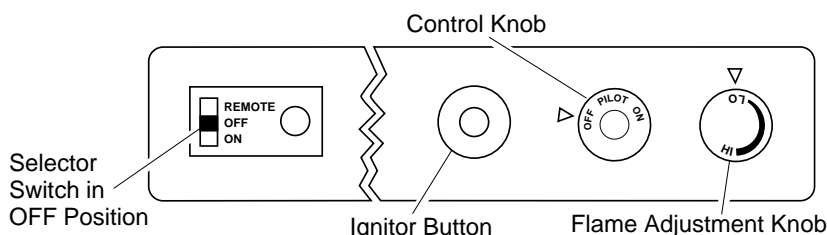

Figure 26 - Control Knob and Ignitor Button Location
5. Wait five (5) minutes to clear out any gas. Then smell for gas, including near the floor. If you smell gas, STOP! Follow "B" in the safety information, column 1. If you don't smell gas, go to the next step.
6. Press in and turn control knob counterclockwise to the PILOT position. Press in control knob for five (5) seconds (see Figure 26).